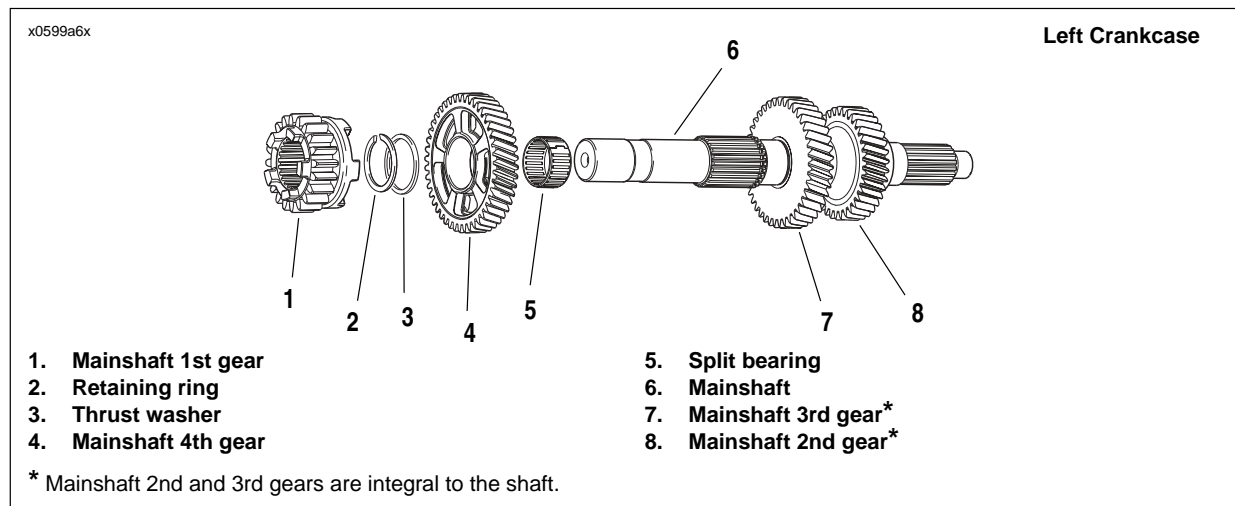

Figure 6-64. Transmission Mainshaft Assembly/Reassembly
1. See Figure 6-64. Install **new** split bearing (5) in 4th gear position on mainshaft.
2. Install 4th gear (4) and thrust washer (3).
3. Using RETAINING RING PLIERS (Part No. J-5586-A), expand and install **new** retaining ring (2).
4. Install 1st gear (1).